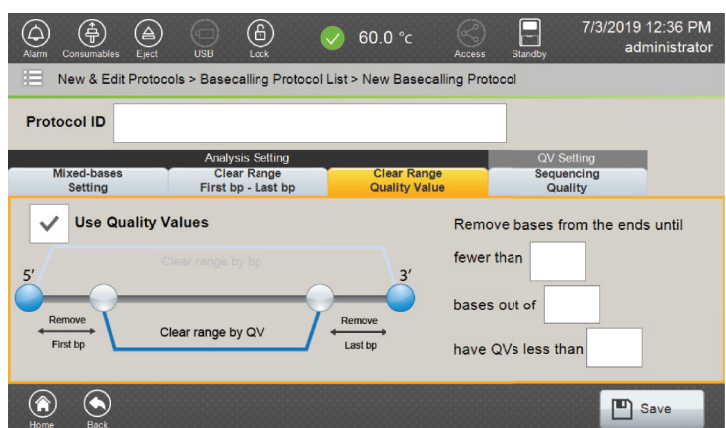

Figure 125. 'Clear Range Quality Value' tab.
Clear Range Quality Value	<p>Checking the “Use Quality Values” box defines the first and last bp using the quality value specified (Figure 125).</p> <p>Note: When creating a new Basecalling Protocol, the default setting for Clear Range Quality Value is disabled (box unchecked).</p> <p>The software creates a clear range by removing bases from the 5’ and 3’ end of the read based on QV values. In the resulting clear range, no sliding window of ‘bases out of’ (e.g., 30) will contain more than the specified number of bases (e.g., 4 in the ‘fewer than’ field) with a QV value below that set in the ‘have QVs less than’ field (e.g., 20) (Figure 125). Any sliding 30 base window in the first or last part of the sequence that does not meet these parameters is trimmed from these ends.</p> <p>Minimum and maximum values allowed by software for ‘fewer than’ and ‘bases out of’ fields are 1bp and 1,200bp, respectively. The value entered in the ‘fewer than’ field must always be less than the ‘bases out of’ field.</p> <p>Minimum and maximum values allowed by software in the ‘have QVs less than’ field are 1 and 60, respectively.</p>
7. Alternatively, the Clear range can be defined by quality value by selecting the "Clear Range Quality Value" tab and checking the "Use Quality Values" box (Figure 125). In the 'fewer than' field, enter the number of bases that can have a QV lower than that specified in the 'have QVs less than' field over a window size specified in the 'bases out of' field. For example, fewer than 4 bases out of a window size of 30 bases can have QVs less than 20 (equivalent to no more than 4 bases over a window size of 30 bases can have a QV less than 20).